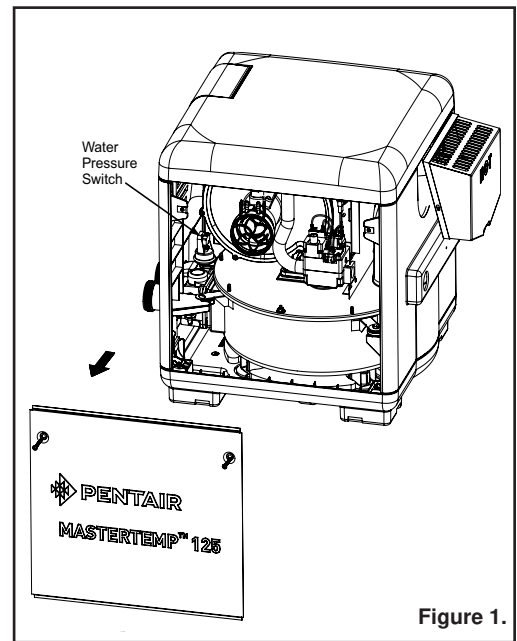
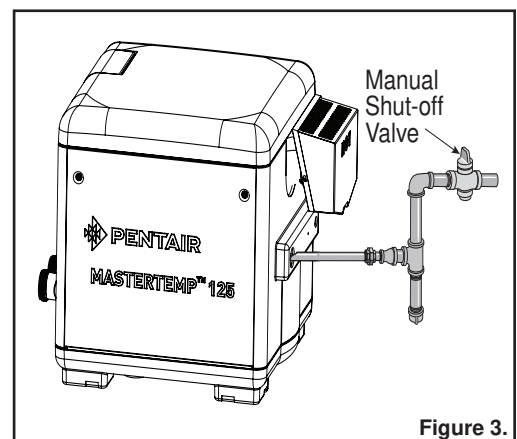

Figure 1.
Figure 3.
3. Turn off all electric power to the appliance. **Turn OFF the Outside Manual Shut-Off Valve (Figure 3).**
5. Remove the access door panels by unfastening the two (2) screws located on each door, then lift up and out from the bottom of the panel to remove. If necessary, the screws may be used as handles, see Figure 1.
6. Wait five (5) minutes to clear out any gas. If you then smell gas, **STOP!** Follow "B" in the "Before Start-up" instructions (page 1). If you don't smell gas, go to the next step.
7. **Turn ON the outside Manual Shut-Off Valve (Figure 3).**
- **Turn OFF the outside Manual Shut-Off Valve (Figure 3).**
3. Remove the access door panels, see Figure 1.